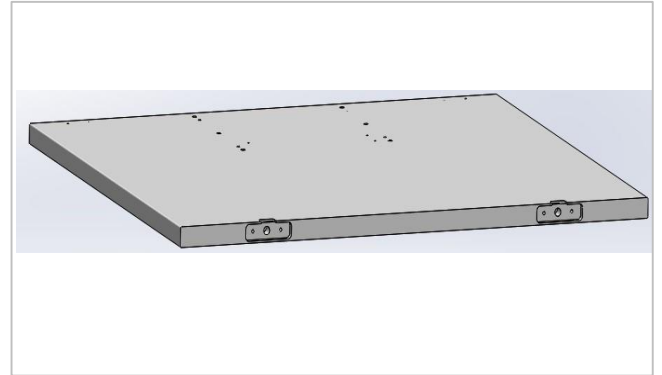

Figure 1
1. Lay the end panel of the table down to gain access to the pockets at the bottom of the panel. (Figure 1)